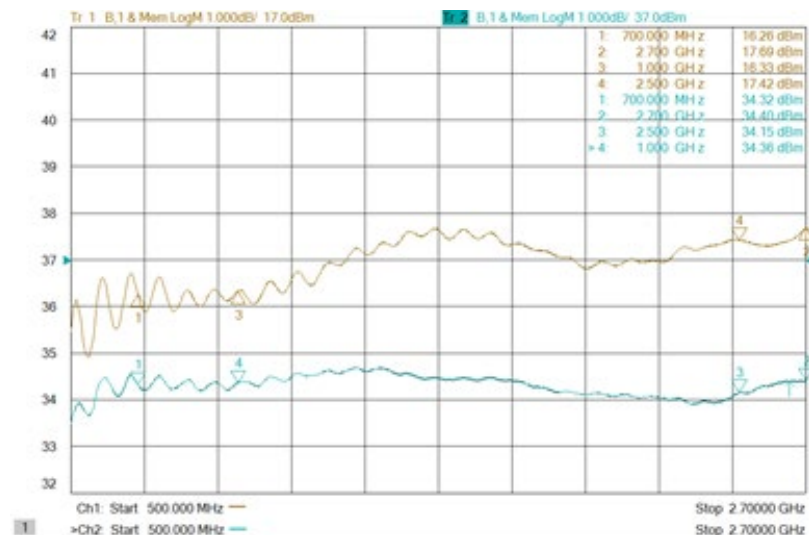

Figure 4-7. Typical A1 Pre-Amplifier Response
NOTE: The A1 Pre-Amplifier's response may differ considerably—particularly in flatness—from the typical responses shown in the Figure 4-7.
8. The typical response for the A1 Pre-Amplifier (at maximum gain setting) is shown in Figure 4-7.